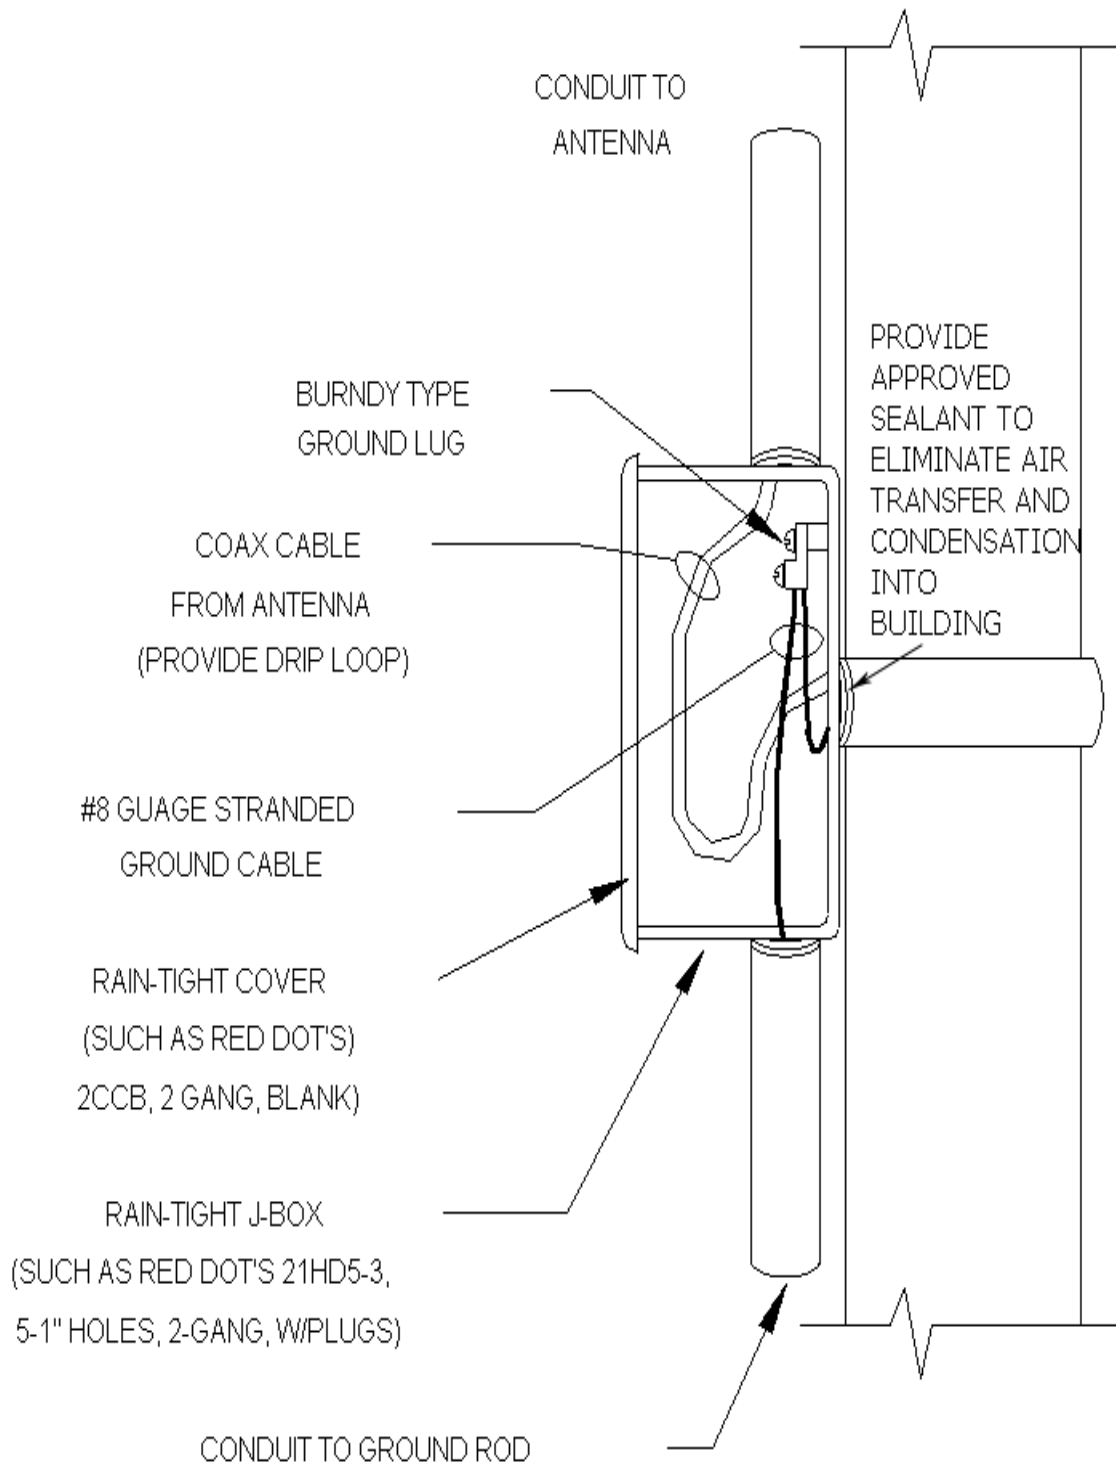

Figure 3
3. If the **Transmitter** is mounted inside the building, pull the **Coax Cable** through the conduit to the Transmitter Panel. Leave a **Drip Loop** in the **Junction Box** taking care not to twist, stress or kink the **Coax Cable**. See Figure 3.